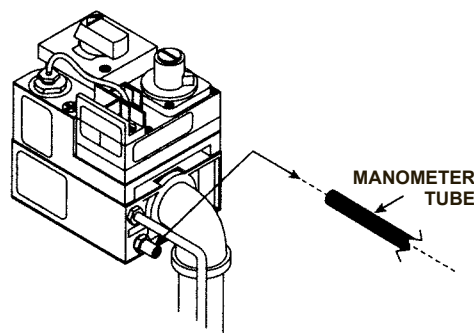

Figure 34: Gas Pressure
4. Attach manometer to the 1/3" pipe nipple. See Figure 34.